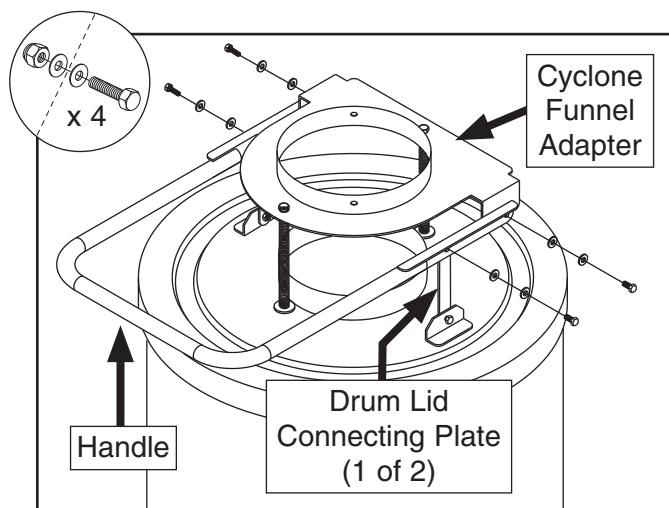

Figure 24. Collection lid handle attached to connecting plate and adapter.
32. Attach collection lid handle to cyclone funnel adapter and drum lid connecting plates with (4) $\frac{3}{8}$ "-16 x 1" hex bolts, (8) $\frac{3}{8}$ " flat washers, and (4) $\frac{3}{8}$ "-16 lock nuts (see **Figure 24**).